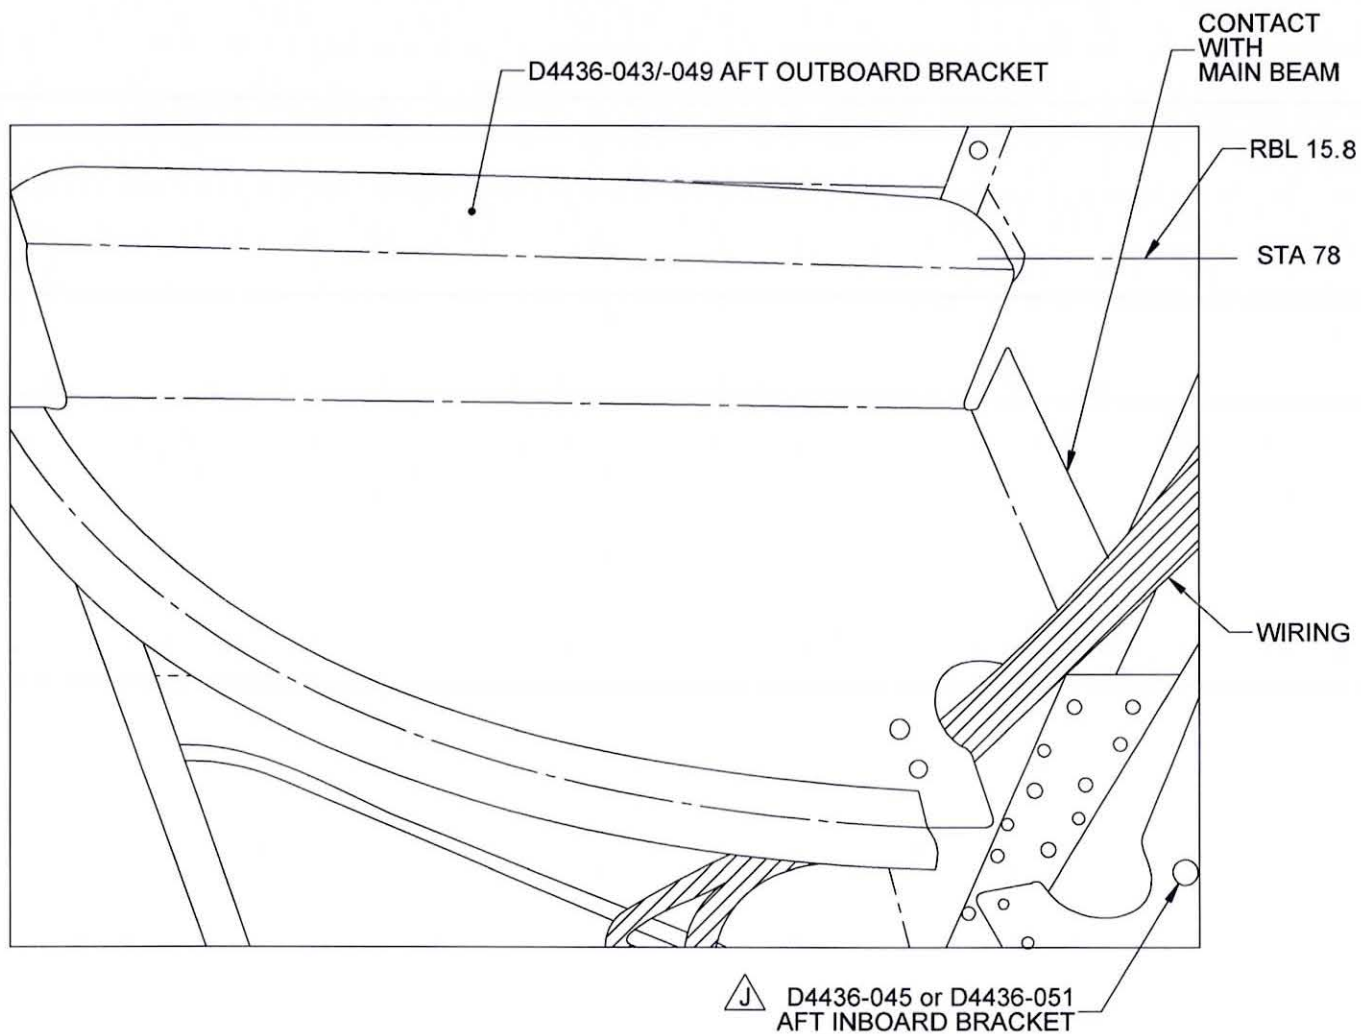

Figure 3. D4436-043/-049 Aft Outboard Bracket Installation ⚠
- Position the D4436-043/-049 Aft Outboard Bracket so the flange contacts the main beam as shown in Figure 3.